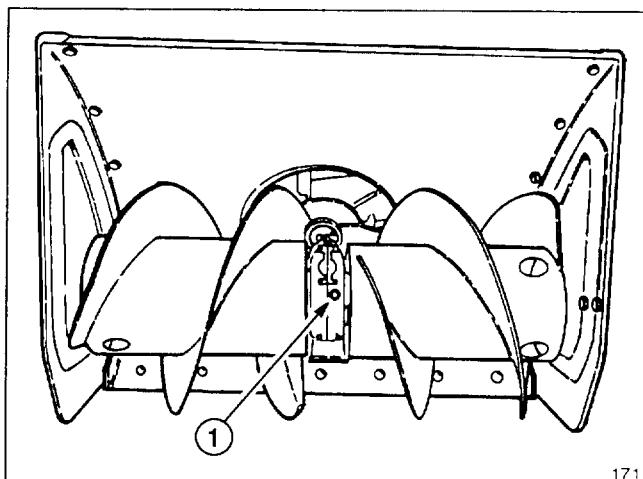

Figure 26
## AUGER GEAR BOX OIL (Fig. 26)
3. Remove pipe plug from gear box (Fig. 26).